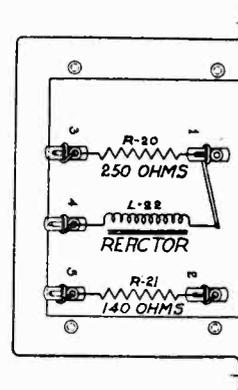

Fig. 19—
- d. Short in either of the resistors on reactor unit Fig. 19.
- g. Open reactor coil on reactor unit, Fig. 19.